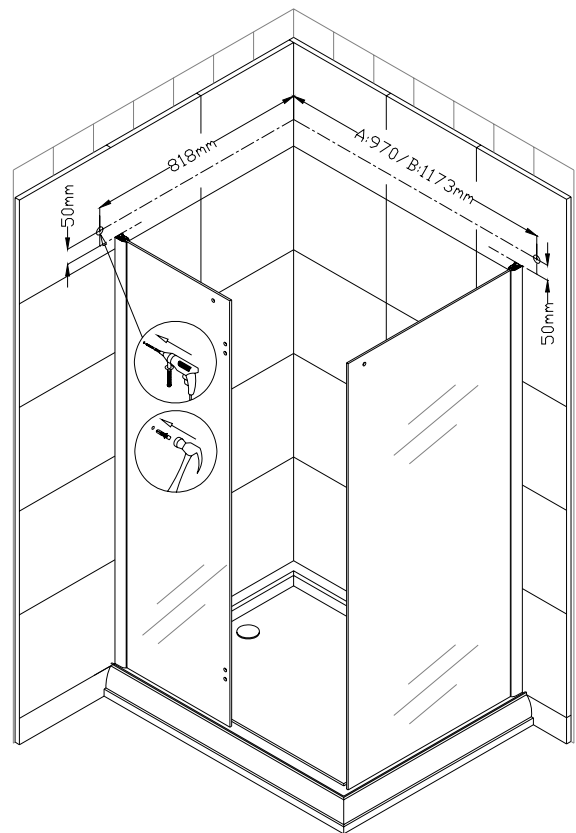
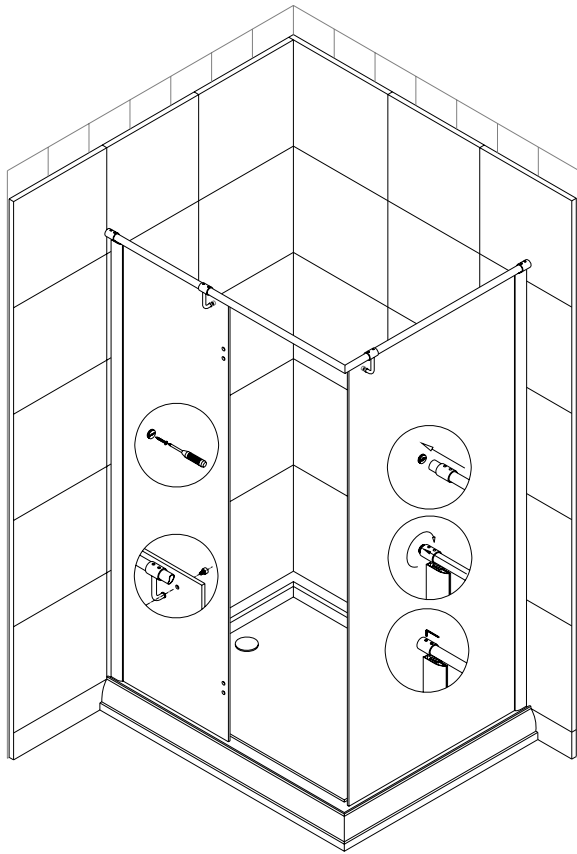
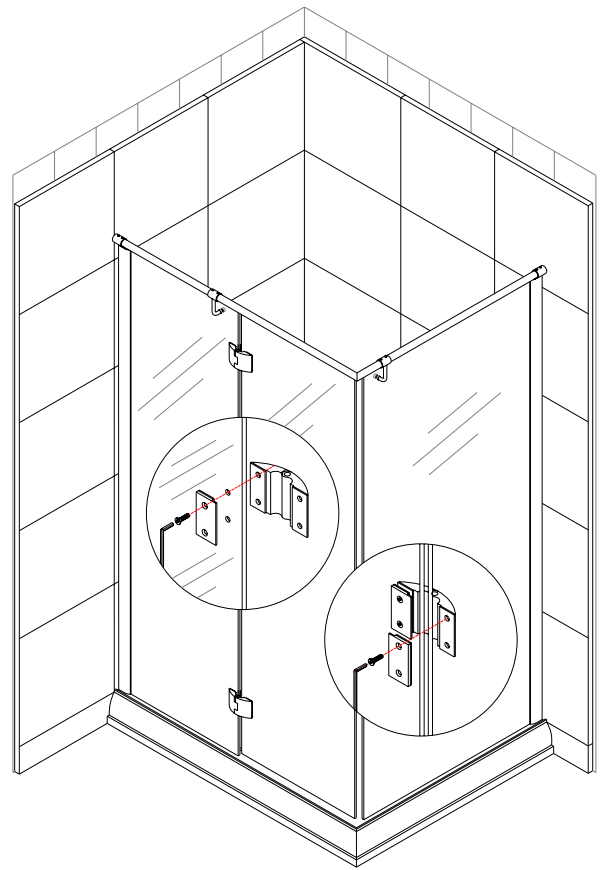
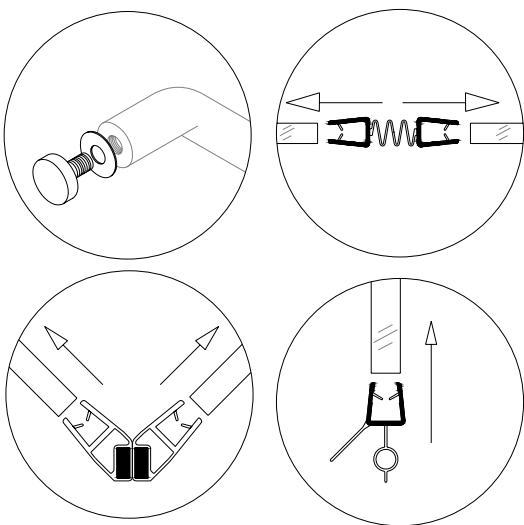

Fig 4
Fig 5
Fig 6
Fig 7
5. Refer to Fig 4 to mark the drill holes for the **Support Bar Wall Connecting Brackets (5)**. Make sure the mark is clear and visible and at the exact location as the support bar wall connecting brackets. Drill the holes and install wall anchors in the marks that you created. Tightly install one of the **Support Bar Wall Connecting Brackets (5)** in the wall. Locate the **90 Degree Support Bar (6)**, then locate the two **L-Shaped Glass support brackets (7)**. Face the brackets inward; then slide one L-shaped glass support bracket on each side of the support bar. Next take the support bar assemble, install it into the support bar wall connecting brackets one side at a time, make sure it's a tight fit. When the bar is in place make sure it's level with the glass and the walls. Now fasten the L-shaped glass support brackets to the narrow stationary glass and the wide stationary glass. (fig 5)
6. Install the **Hinges (8)** onto the narrow stationary glass panel and the glass door. Upper edge of the **Glass door** should be on the same level as upper edge of the **Stationary glass**.
You will need assistance in this process. Start off by attaching the hinges to the narrow stationary glass panel. Place the hinge from the outside and screw it in from the inside, do this for the bottom hinge and the top hinge, but start first from the top hinge when you begin to put the door on. Make sure that until both hinges are installed securely, the door does not swing around or lean/bend to any side because that could cause the hinge to snap. After the hinges are installed open and close the door to make sure it's nice and smooth (fig 6). Push on the **Connected anti-water strip (15)** to seal between the glass door and the narrow stationary glass (fig 7).
7. Install the **Handle** to the **Glass door**. Locate the Vertical Handle and the Horizontal Handle (9). The horizontal handle will be on the outside and the vertical handle will be